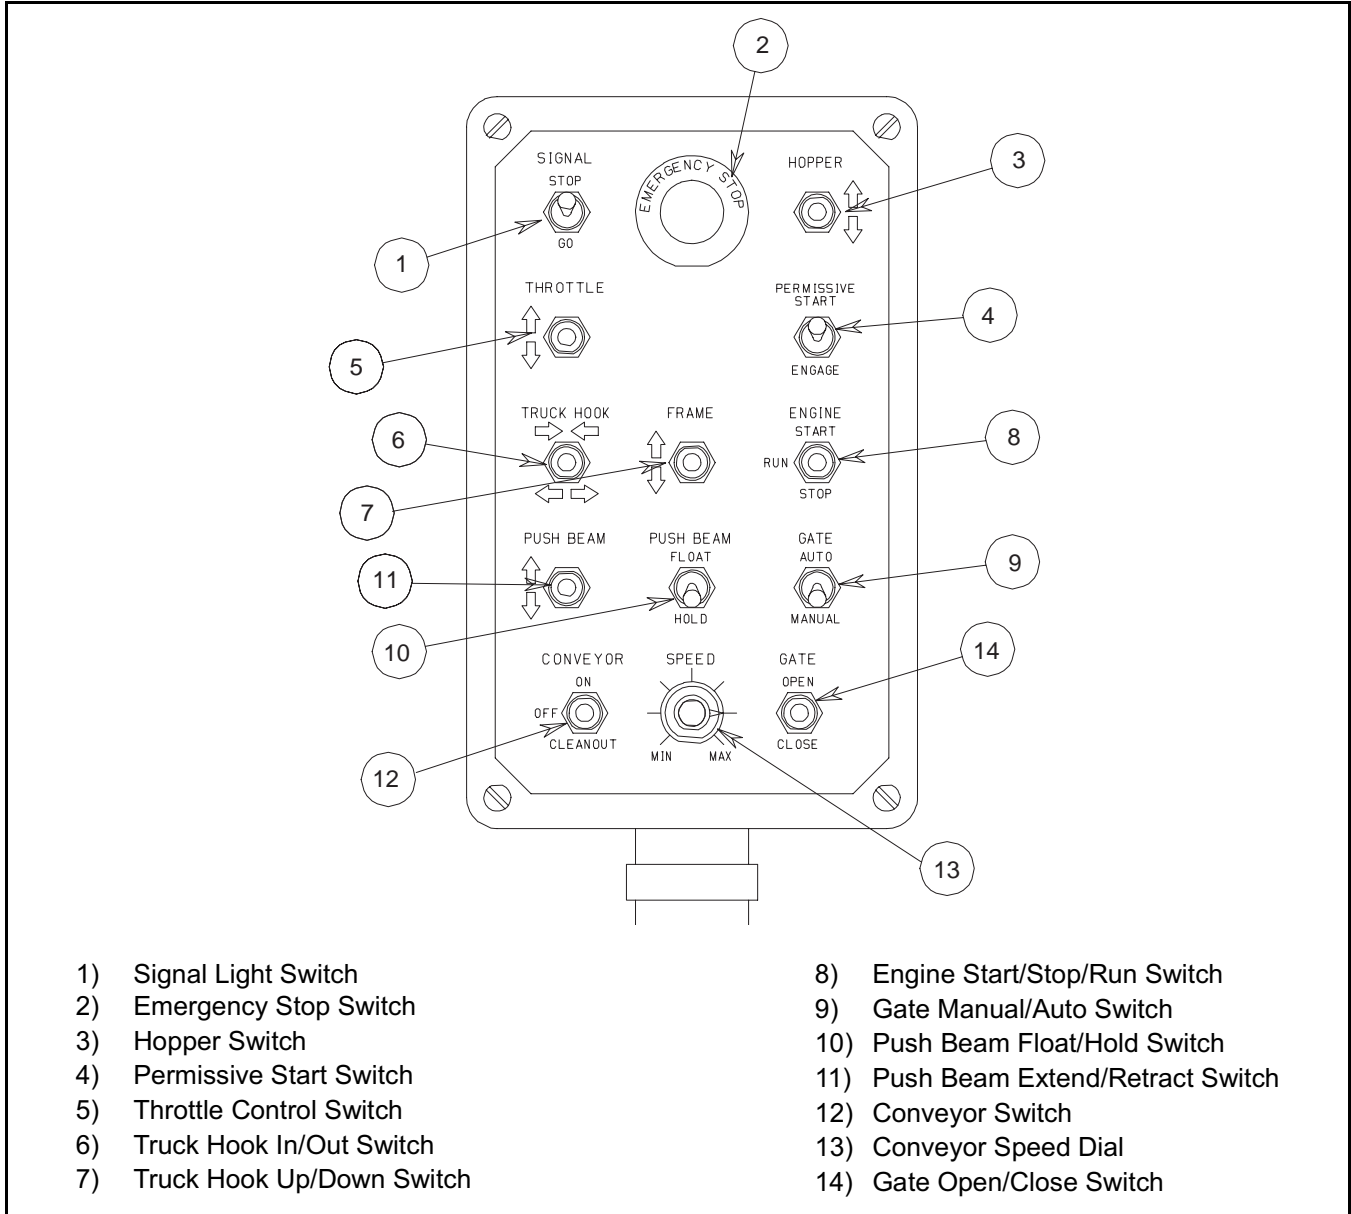
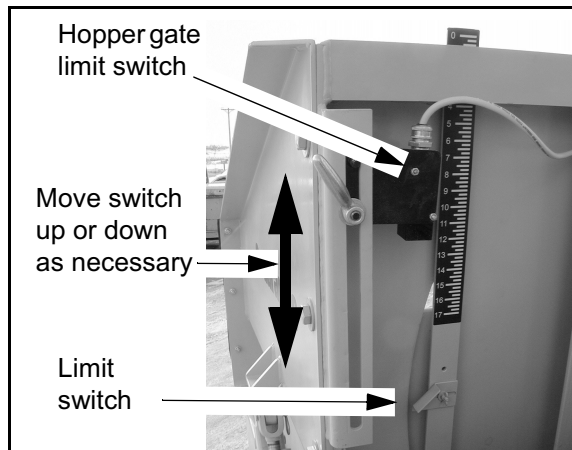

Figure 12 MS-4 Control Panel
Figure 16 Hopper Gate Limit Switch Adjustment
Refer to (Figure 12) for controls and (Figure 16) below to adjust the hopper gate switch to limit the maximum opening. Make this adjustment before starting to operate the machine on a job.
- 12) Loosen limit switch retaining nut and slide switch up or down in slot until the switch contacts the activator (Figure 16). You should hear the switch click when it activates.